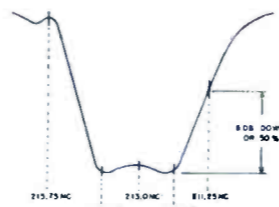

Figure 8 - Overall Response Curve
11. By adjusting T100 on the tuner for maximum amplitude of the response curve and the bottom adjustment of Z300 to correct the tilt, the curve and marker points should be as shown in Fig. 8.
The top adjustment of Z300 is the accompanying sound trap (41.25 mc) and should be adjusted to fall as shown in the response curve (Fig. 8) at 215.75 mc. After adjusting the 41.25 mc. trap it may be necessary to retouch the bottom adjustment of Z300.